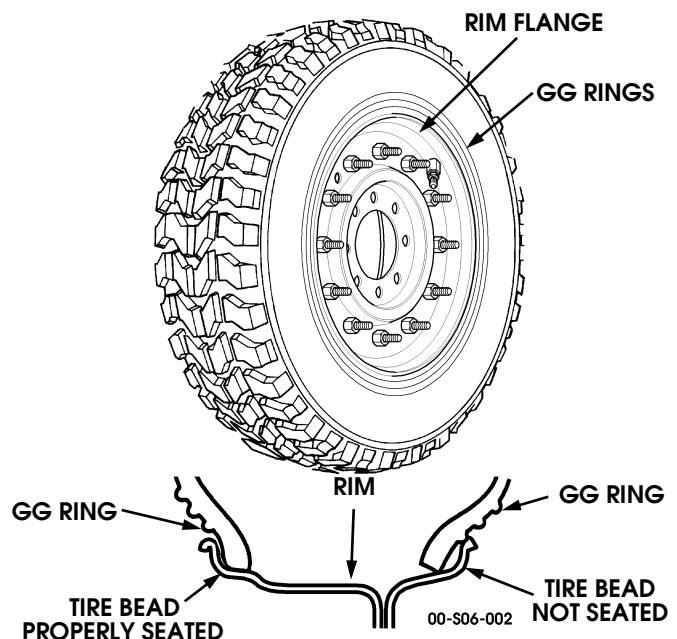

Figure 6-34: Checking Tire Bead Seating
9. Be sure that the tire is properly mounted and seated on the wheel. Check the distance between the GG rings on the tire and the wheel flange. The distance between the GG rings and the wheel flange should be the same (concentric) all the way around the tire (Figure 6-34).